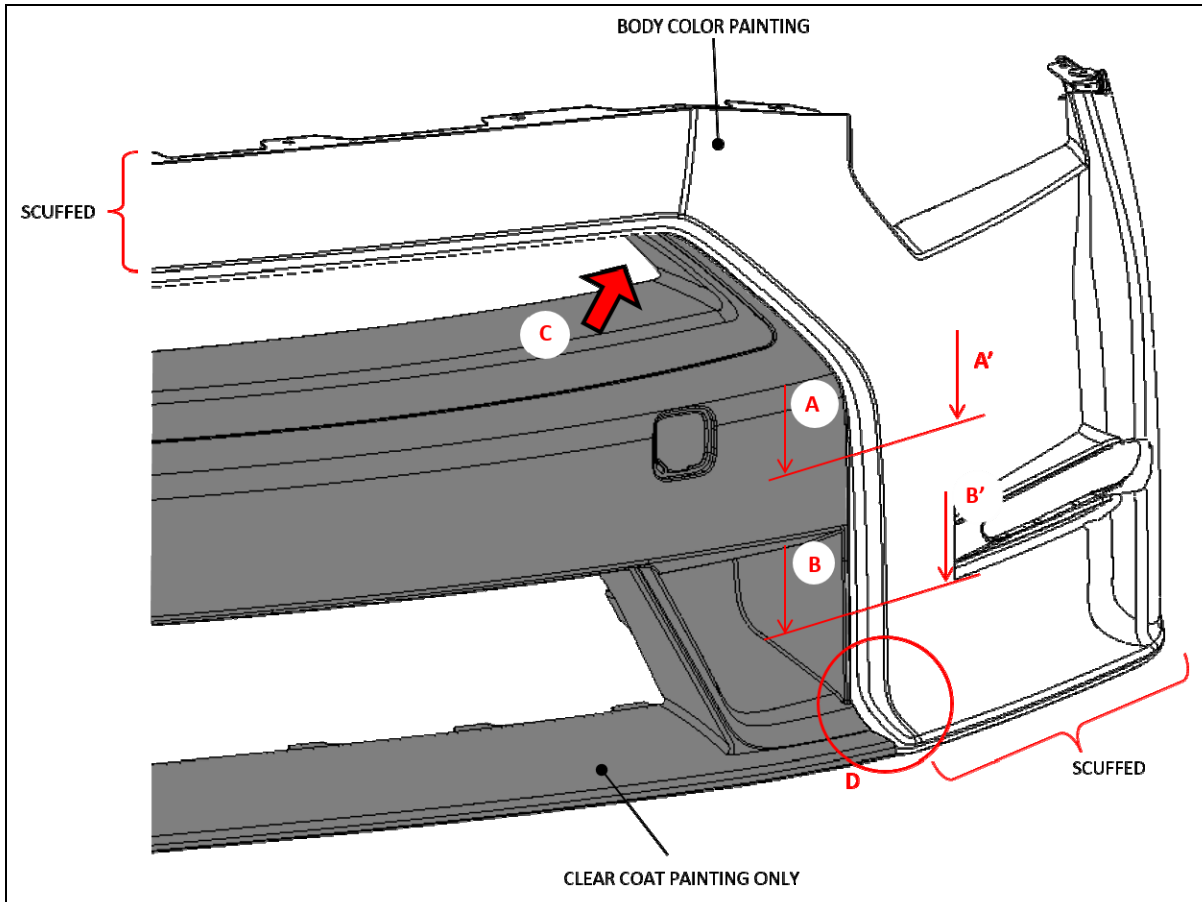

Figure 5
- After painting the front and rear bumper fascia (Figure 5 and 7) clear coat from (1) to (3), finish scuffing. (If unprocessed areas are identified, scuff as needed)